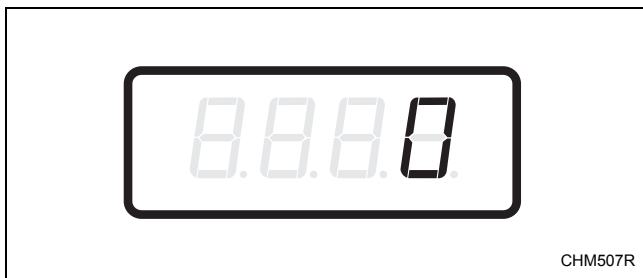

Figure 23
2. When “SA13” appears in the display, press the START (enter) keypad. There are five digits in the Special Vend A Normal Cold Vend Price. The fifth digit will appear in the display and will flash one (1) second on and one (1) second off. Refer to *Figure 23*.